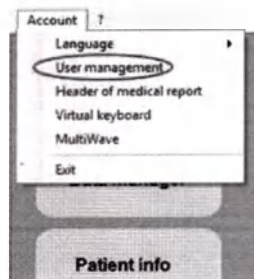

Figure 7. Access to the "User management".
The Amolab Suite allows to manage the accounts and utilities using a dedicated interface. To access the "Users management" interface, click on "User management" in the "Account" menu in the toolbar (see Figure 7).
1. Access the "User management" interface (see Figure 7);
1. Access to "User management" interface (see Figure 7);
To use the MultiWave Module you can also running it, from the toolbar: go to the "Account" menu and click on "MultiWave" (see Fig.7). The system will open the MultiWave Module and automatically will close Amolab Suite.